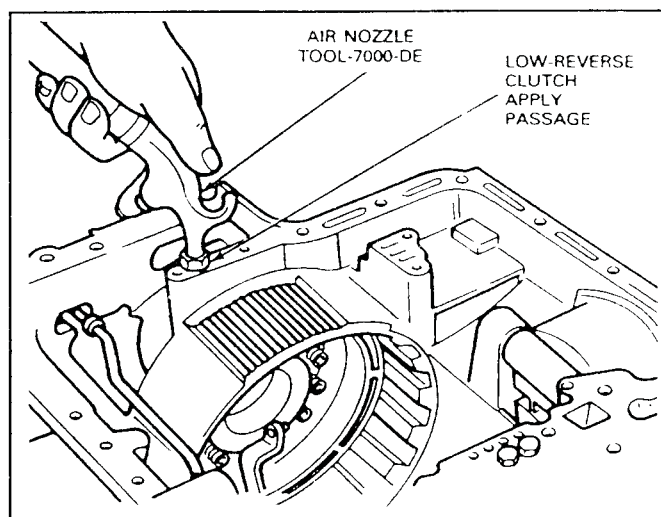

FIG. 23 Removing Low-Reverse Clutch Piston
22. Remove the low-reverse clutch piston from the case using TOOL-7000-DE or equivalent as shown in Fig. 23.